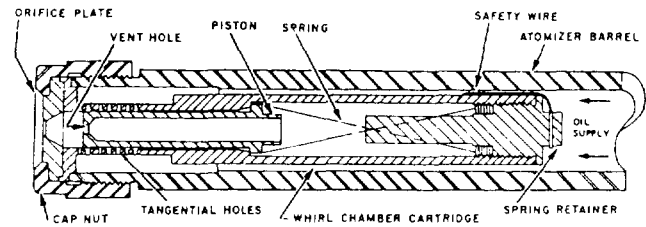

Figure 4-17.—Vented-plunger atomizer.
**Vented-Plunger Atomizer.**— The vented-plunger atomizer shown in figure 4-17 is unique in that it is the only atomizer in use in the Navy that has moving parts. The fuel oil flows down the atomizer barrel and around the atomizer cartridge. The pressure in the barrel forces the fuel oil into the cartridge through the holes drilled in the cartridge. As the fuel is forced into the cartridge, it begins to spin. This motion forces the fuel out through the orifice in a fine mist. Increasing fuel-oil pressure in the atomizer barrel and cartridge will cause the piston to overcome the spring pressure. The piston is then forced back, uncovering more holes and allowing fuel to be atomized and forced into the furnace. As pressure decreases, the opposite occurs. The spring tension recalls the piston, covering the holes and allowing less fuel oil to be atomized.